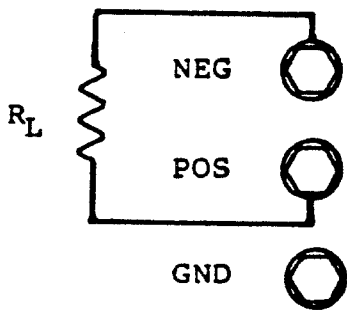

Figure 3-3. Remote Resistance Programming of Output Current
(1) External Current Programming Using Resistance. The resistance coefficient for remote current programming is 100 ohms/100% rated output. The programming current from the current control programming terminal A3 is factory set for 1 milliampere. This yields a coefficient of 1% of rated output current per ohm (1%/ohm). If multiple switches or relays are used to program different levels, make-before-break contacts are recommended. See Figure 3-3 for strapping requirements.
(2) External Current Programming Using a Voltage Source. The voltage coefficient for remote current programming is 1 millivolt as depicted in the following examples.